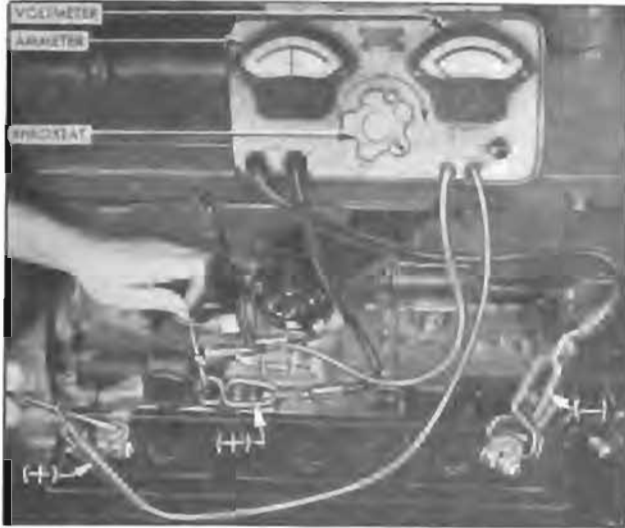

Figure 10-7—Testing Battery Cables and Connections with Voltmeter, Ammeter, and Rheostat
2. Connect ammeter positive (+) lead to battery terminal stud on cranking motor solenoid switch. Connect ammeter negative (-) lead to one side of rheostat and connect other side of rheostat to ground on engine, preferably at point where battery ground strap is attached. In the instrument shown in figure 10-7 the ammeter and rheostat are connected in series inside the case.
3. Connect voltmeter negative (-) lead to battery terminal stud on solenoid switch. Use a prod with voltmeter lead, if necessary, to insure direct contact with the terminal stud. *Do not connect to the ammeter lead clip.* Attach a prod to voltmeter positive (+) lead and apply the prod to center of battery positive (+) post (fig. 10-7). Make sure that clips of voltmeter